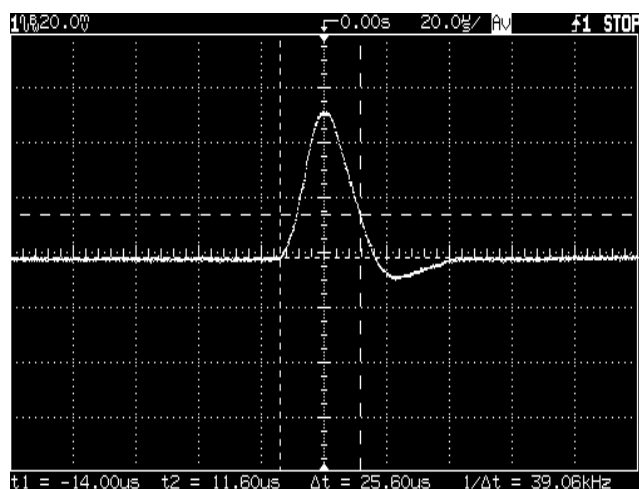

Figure A-4 Transient Response Time
- 5 Adjust the oscilloscope to display transients as shown in Figure A-4. Note that the pulse width ($t_2 - t_1$) of the transients at 15 mV from the base line is no more than 50 μ sec for the output.